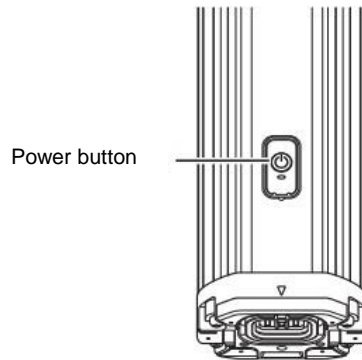

Figure 5.8
1. TURN OFF the power. If there is a keyhole on the head tube, open it. See Figure 5.8.